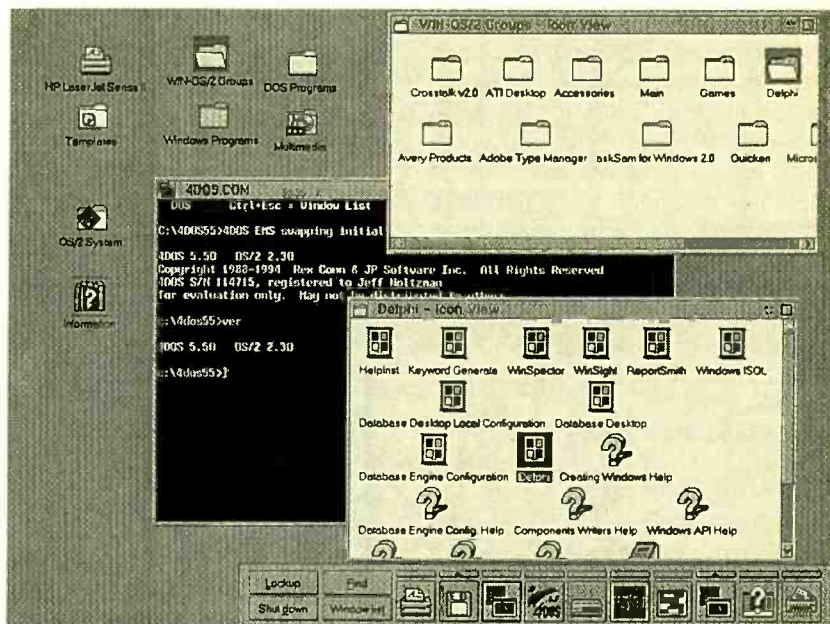

FIG. 1—IBM'S OS/2 WARP VERSION 3.0 does a good job of simultaneously running OS2, Windows 3.x, and DOS applications.
As stated above, I measured well over 100-decibels (dB) sound-pressure level (SPL) in various areas of the cafeteria in which our dances were being held. Although there are no local regulations—at least in our town—dealing with recreational noise, there is a federal law, the Occupational Safety and Health Act (OSHA), that mandates the legal maximum noise in SPL to which employees may be subjected. (See Fig. 1.)
are shown in Fig. 1. There are two basic parts to the circuit: the keyboard encoder made from a CD4017B CMOS counter/divider and the clock made from a pair of CD4011B NAND gates.
FIG. 1—THE FIRST PART of the all-electronic audio router design is the keyboard. It consists of an encoder made from a CD4017B CMOS counter/divider and a clock made from a pair of CD4011B NAND gates.
**W**hen it comes to new operating systems, there is usually good news and bad news. Microsoft's Windows 95 and IBM's OS/2 Warp Version 3.0 maintain the tradition. Both are 32-bit protected-mode, preemptive multitasking operating systems. And both claim to be capable of running any DOS/Windows software worth running, and without requiring a P6 microprocessor to do so. Both claim advanced ease of installation and advanced ease of use. Of course Warp, illustrated in Fig. 1, is here now, and Windows 95 is still targeted for an August release.